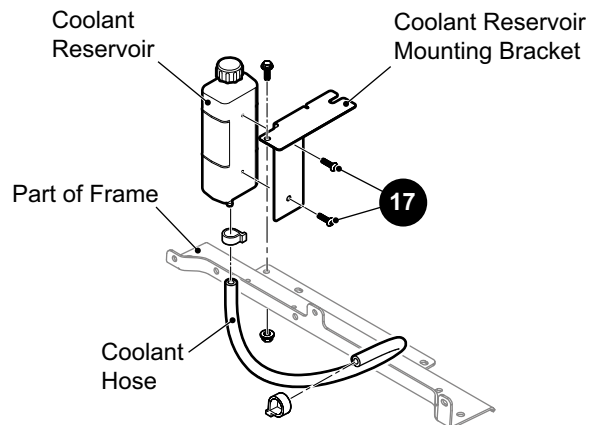

Fig. 5 Coolant Reservoir Removal
- Remove the bolts (17) that secure the reservoir to the mounting bracket mounting bracket (Ref. Fig. 5).